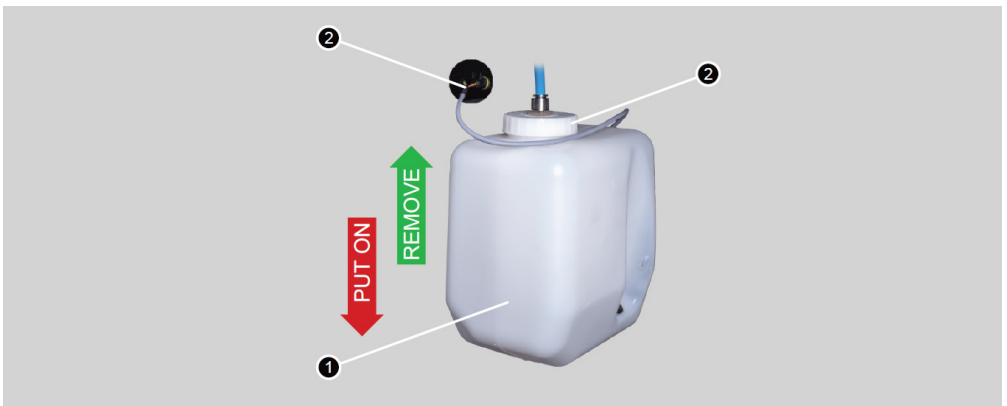

Figure 36 – Removal of the condensate tank
3. Unscrew the tank cap (n.3, Fig.36).
4. Disconnect the condensate level sensor (n.2 Fig.36).